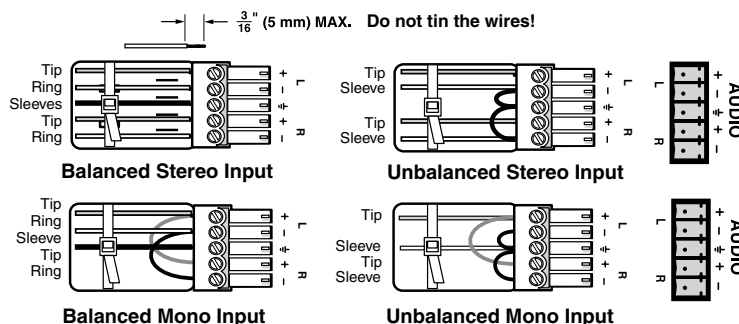
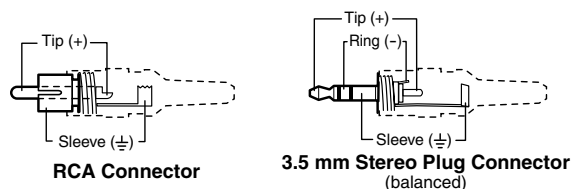
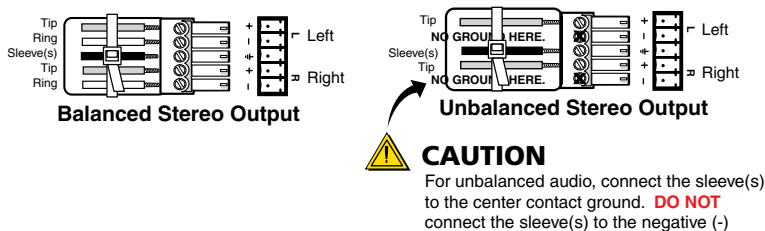

Figure 2-6 — Captive screw connector wiring for audio inputs
Figure 2-7 — Phono audio connectors
Figure 2-9 — Captive screw connector wiring for audio output
- ⑥ **Audio input connectors** — Connect balanced or unbalanced stereo or mono audio to any of the eight sets of 3.5 mm, 5-pole captive screw connectors. Wire the connector for the appropriate input type, as shown in figure 2-6. See chapter 3, “Operation and Setup”, for details about setting up the audio.
NOTE When making connections for the ISM 824 switcher from existing audio cables, see figure 2-7. A mono audio connector consists of the tip and sleeve, whereas a stereo audio connector consists of the tip, ring and sleeve. The tip, ring, and sleeve wires are also shown above on the captive screw audio connector diagram (balanced inputs), figure 2-6, and on figure 2-9.
- ⑧ **Audio output connectors** — Connect audio devices, such as an audio amplifier or powered speakers to these two 3.5 mm, 5-pole captive screw connectors. The connectors output the selected unamplified, line level audio. See figure 2-9 to properly wire an output connector.